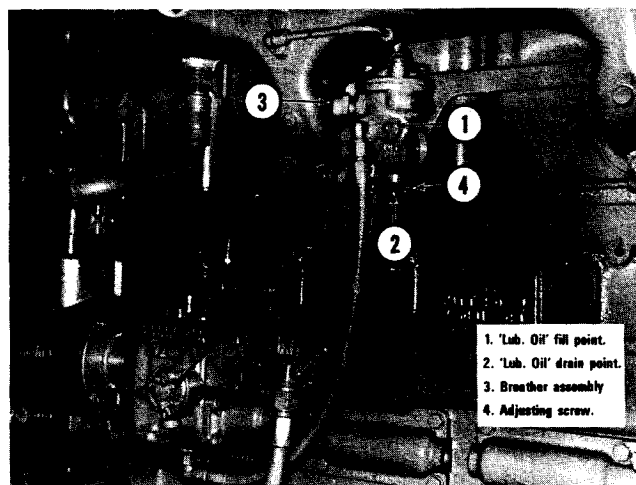

Fig. 2-64, (N10503). Aneroid
- Remove fill plug (1, Fig. 2-64) from hole marked "Lub Oil".
Remove and replace aneroid breather (3, Fig. 2-64).